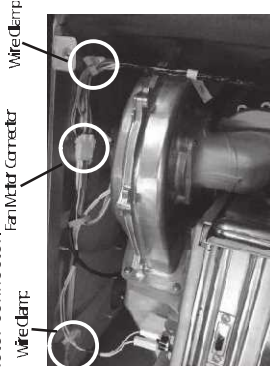

Figure 1
- 9) Connect the Fan Motor connector. And tie the Wiring Harness by using the Wire Clamps (Figure 1).